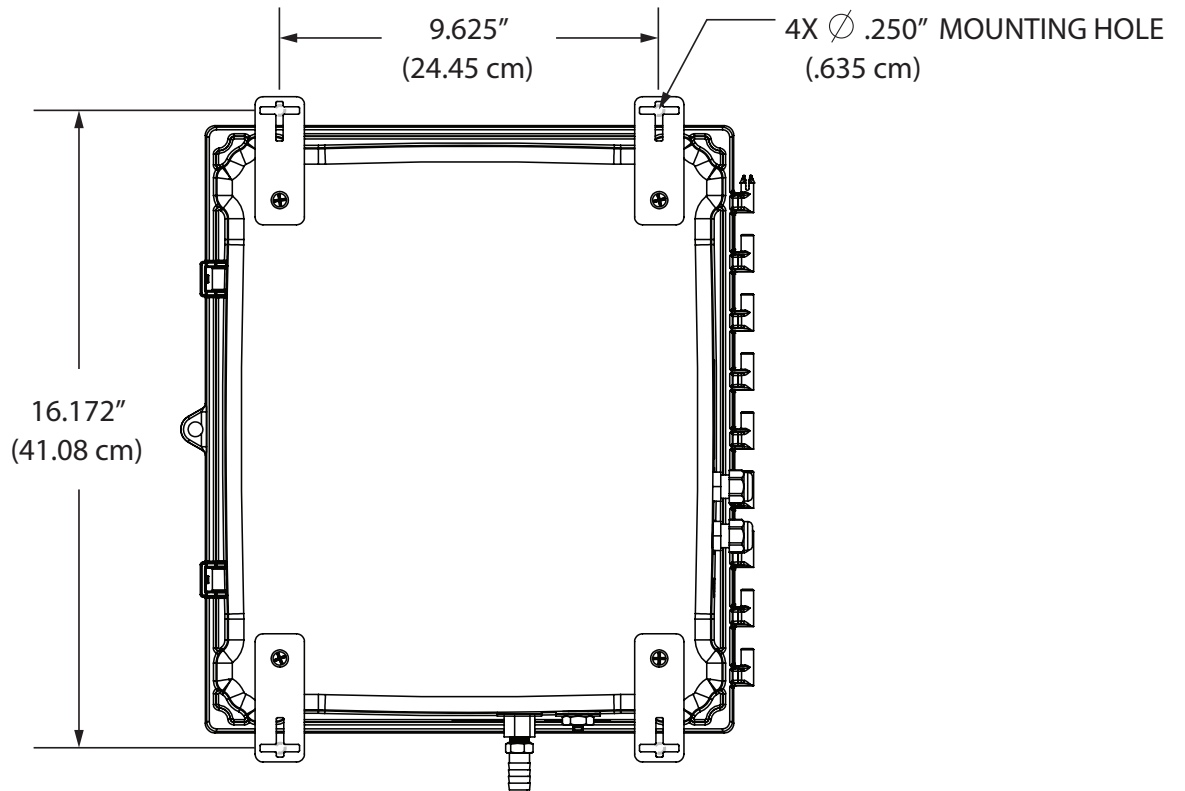

Figure 2.2 3017M mounting dimensions showing the mounting tabs connected to the enclosure
The 3017M has four mounting tabs that must be installed on the enclosure refer to Figure 2.2. These mounting tabs can be found in a package of mounting hardware that is included with the enclosure. Connect the mounting tabs to the enclosure using the four (4) #10-32 x 3/8-inch Phillips Drive flat head machine screws found in the mounting hardware kit.